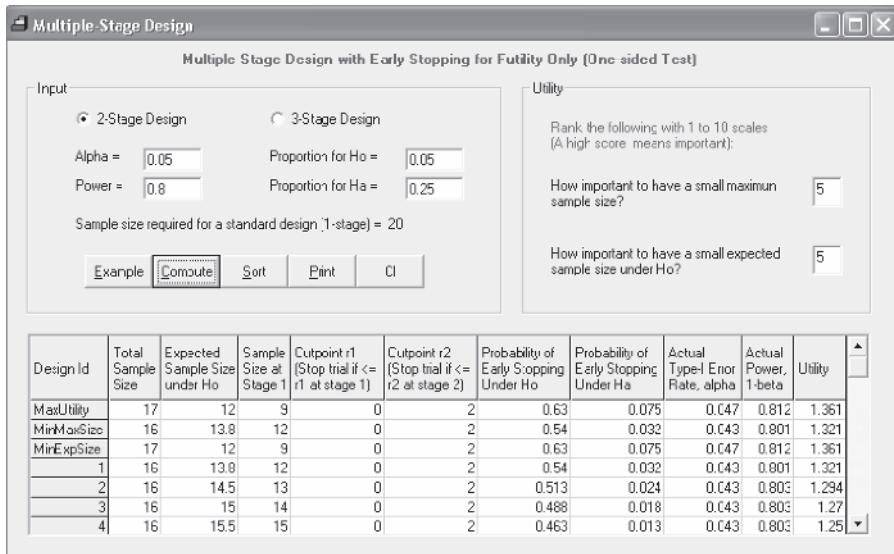

Figure 1.10 Multistage design window.
7. Click  to save the design specification or report (see Figure 1.10).